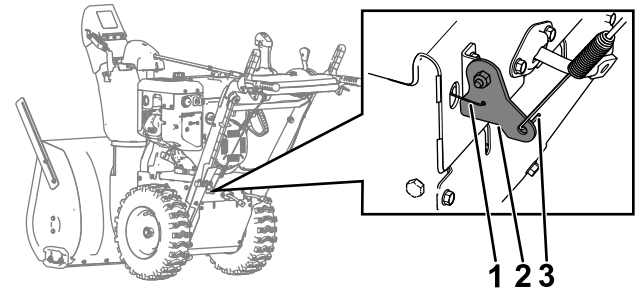

**Figure 4**
5. Install the new traction plate on the friction wheel plate using the previously removed bolt (Figure 4).